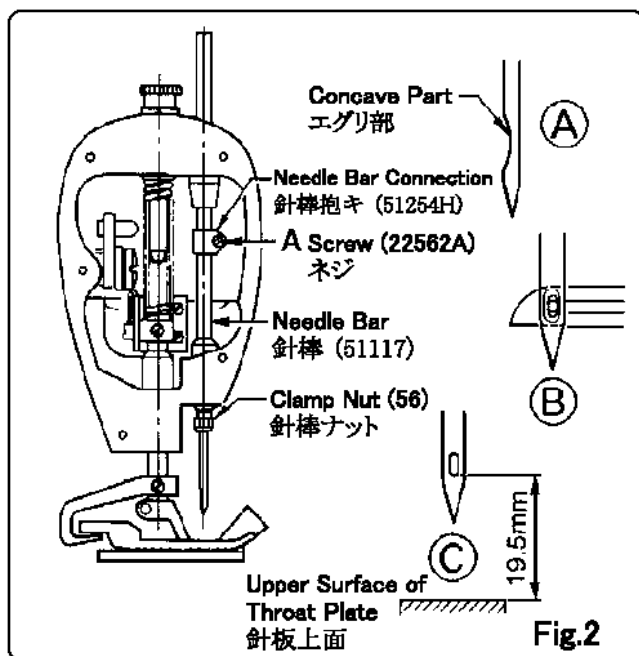

Fig.2
### 4-1 Needle Setting (Fig.2)
Insert a new needle into needle bar as deep as it will go. The concave part of needle should be faced to rear side of stitching direction. Then, tighten the needle bar nut firmly to avoid loosening of needle. (Fig.2)Ⓐ
- For your reference, it is the easiest manner to adjust the distance between upper surface of throat plate and the lowest point of needle hole to be 19.5mm when needle goes up to the highest point. (Fig.2)Ⓒ
b) Needle Height (Fig.2)
Adjust the height of needle bar so that the needle hole can accord with looper hole when the left edge of looper is passing rear side of needle. The adjustment is to be done by moving needle bar up-and-down after loosening the screw A of needle bar holder. (Fig.2)Ⓑ
針の取付け (Fig.2)
- 針のえぐりを(針穴近くの凹んでいる部分)袋の進行方向に向けて取付けてください。(Fig.2) Ⓐ
- 針が最も上がった位置で、針板から針穴の下面までの寸法を 19.5mm にあわせるとルーパの調整のとき簡単です。(Fig.2) Ⓒ
ルーパが前進して、ルーパの先端が針の後ろを通過するとき、ルーパの穴と針穴が一致するように針棒の高さを調整してください。(Fig.2) Ⓑ